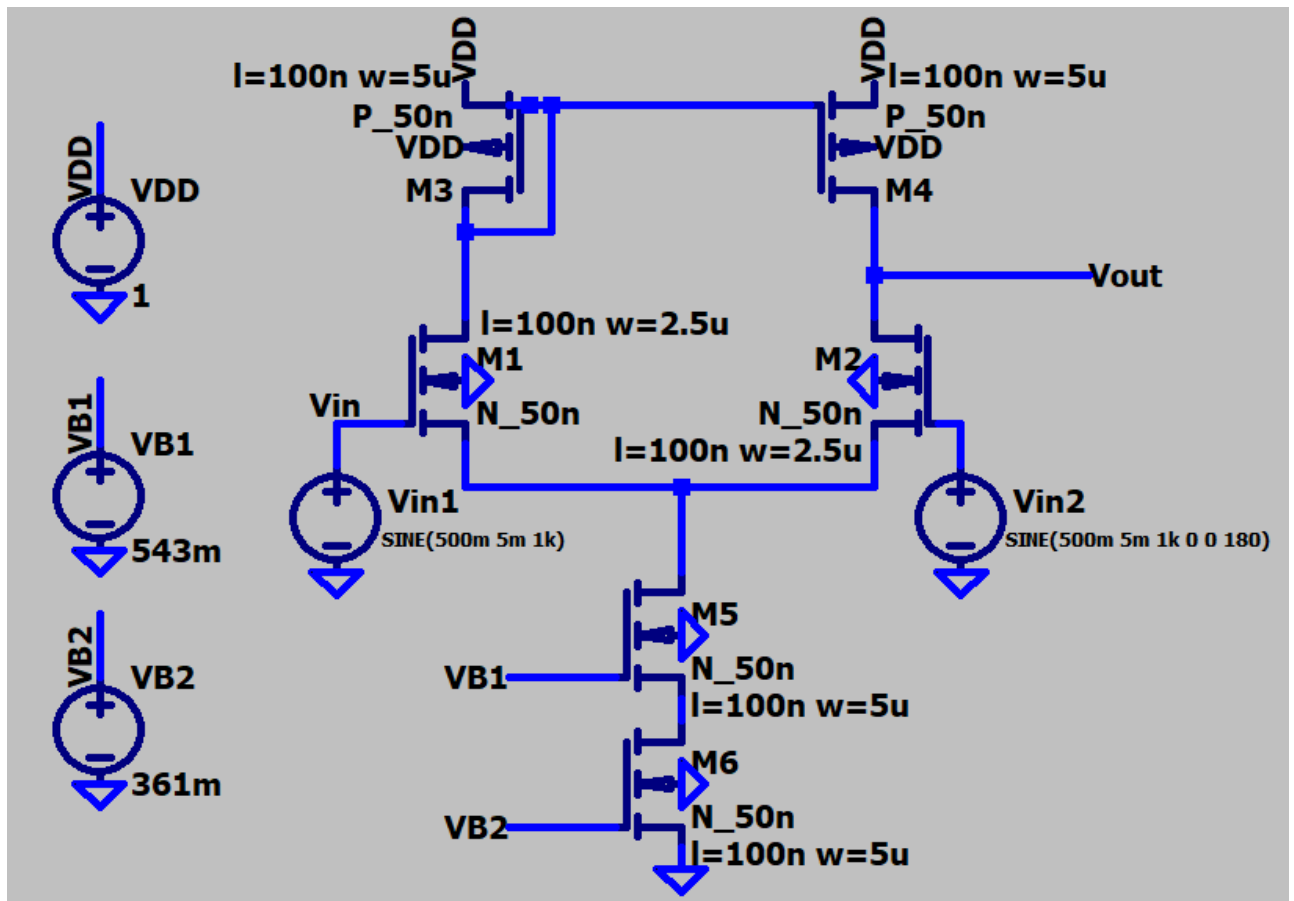

Fig. 2. CMOS Differential Amplifier
3. Connect the circuit in Fig. 2: